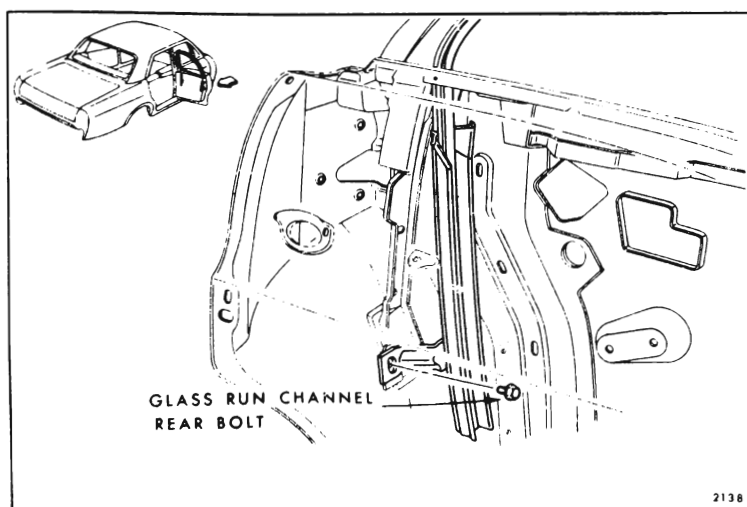

Fig. 7-131—Glass Run Channel Retention - "B" Closed Styles Except 45-46000 Series
- Remove glass run channel front and rear attaching bolts (Fig. 7-131 and 7-132).